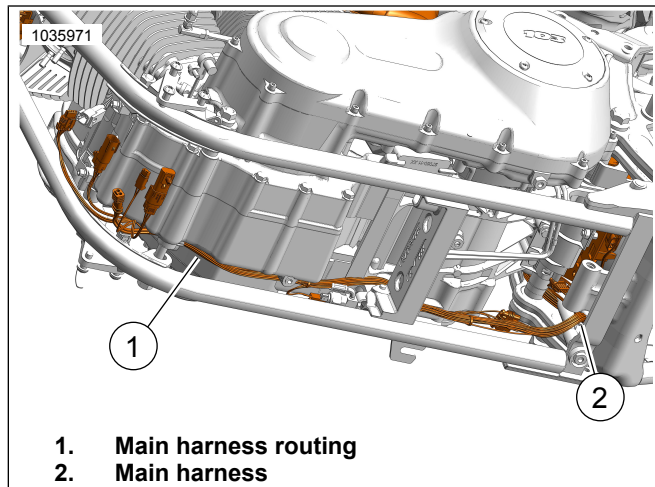

Figure 36. Harness Routing
16. See Figure 36. **Front oxygen sensor (long harness lead):**
- b. Locate main harness (2).
- c. Route harness along main harness (1) toward the front oxygen sensor connector.